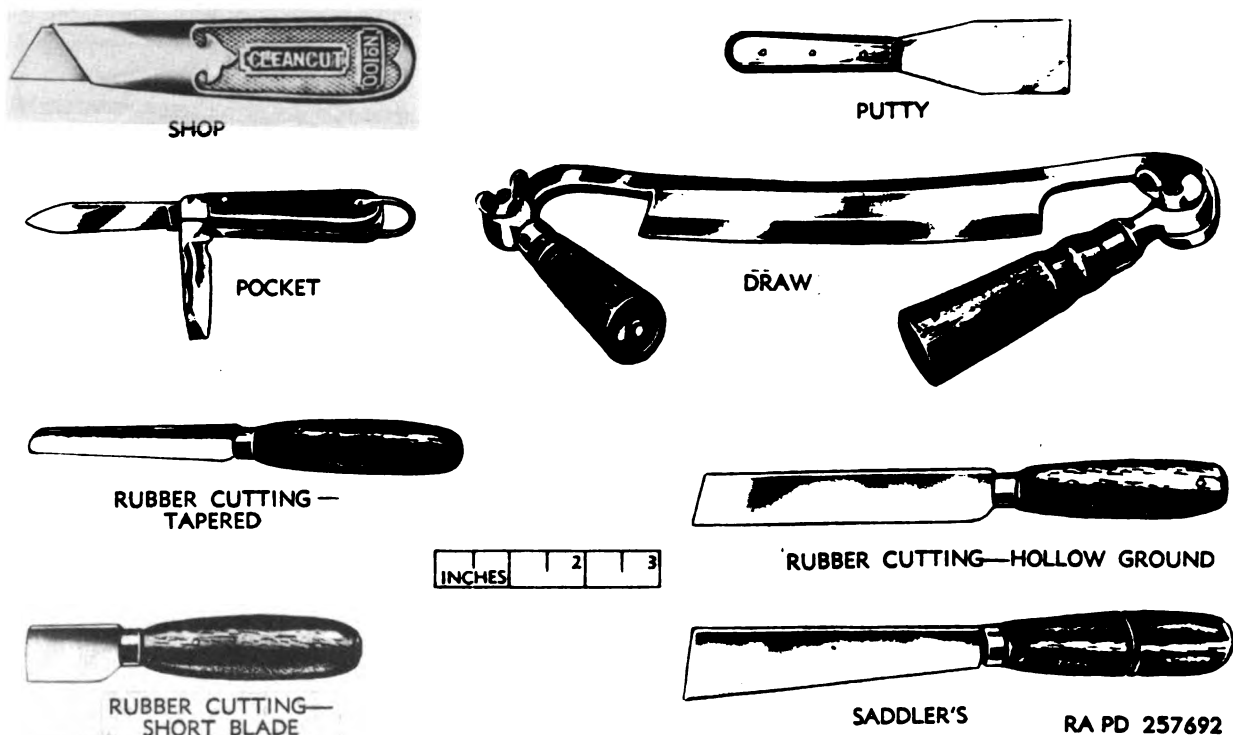

Figure 222. Types of knives.
Most knives (fig. 222) are used to cut, pare, notch, and trim wood, leather, rubber, and other materials. Some knives used by glaziers are called putty knives; these are used to apply and spread putty when installing glass.
a. *Rubber Cutting Knives.* Rubber cutting knives (fig. 222) are made in several shapes.
b. *Saddler's Knives.* Saddler's knives (fig. 222) are available in three shapes; one having a broad point on a 1½ x 5-inch blade, one having a 5-inch round pointed blade, and one having a 5/8 x 3¾-inch square point blade.
c. Shop Knife. The shop knife (fig. 222) can be used to cut wall board, paper, cardboard, linoleum, canvas, and upholstery materials. It has an aluminum handle and is furnished with five interchangeable blades. The extra blades are stored in the 5-inch handle.
d. Pocket Knives. Pocket knives (fig. 222) are used for light cutting, sharpening pencils, cutting string, and light whittling. They are unsuited for heavy work. Multi-purpose knives have an assortment of blades designed for forcing holes, driving screws, and opening cans, as well as cutting. The blades are hinged and contained within the case when not in use and are spring loaded to keep them firmly in place when open or closed.
e. Drawknife. A drawknife (fig. 222) is a flat-edged tool used especially on round timber to rough-shape wood. It should be used to smooth wood after chopping with a hatchet or adze. It consists of a single bevel blade and two wooden handles, one at each end and at right angles to the blade.
g. Putty Knife. A putty knife (fig. 222) is used for applying putty to window sash in setting in panes of glass. The blade has a wide square point and is available in different lengths and widths.